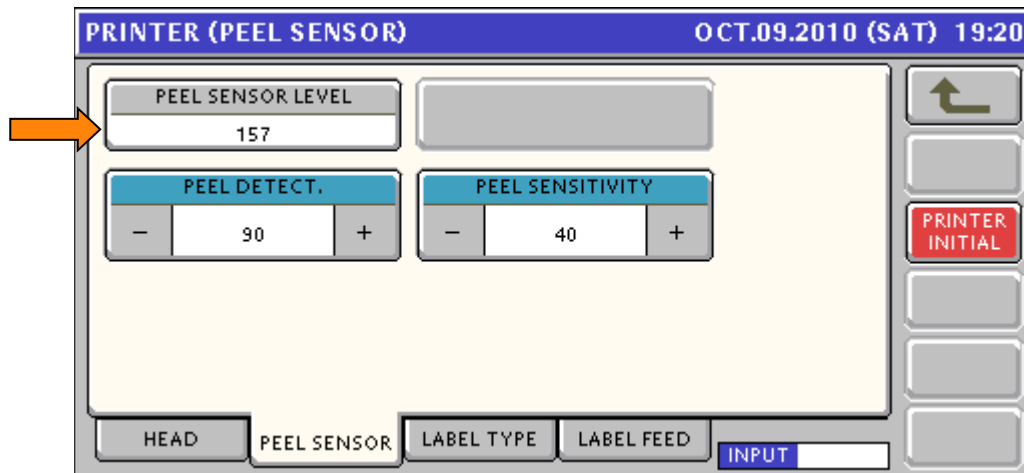

Figure 70. Printer – Peel Sensor Section Settings
- If the values are known enter them as needed. If not, check the **PEEL SENSOR LEVEL** readings and adjust the **PEEL SENSITIVITY** value. See Figure 70.